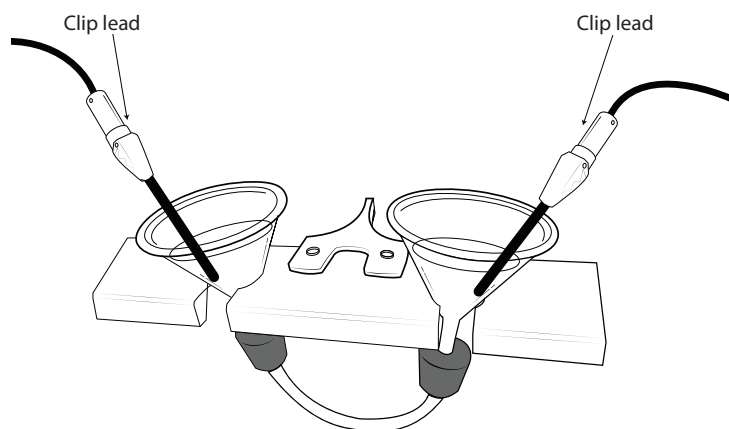

Figure 1. Funnel Apparatus with Electrodes
1. Check that your DC power supply is properly set up. Refer to Figure 1 on the next page for terminology and set up. If the clip leads are corroded or frayed, take them to the Dispensary to exchange for a new set.
Question A: How do you interpret the color changes in each funnel? Draw the diagram in Figure 1 and indicate what color changes occur and write balanced chemical reactions for the processes that cause the changes.
- Referring to Figure 1, which you transcribed into your notebook, the instructions for Part A say to connect the (+) terminal of the multimeter (the red lead and red socket) to the electrode in the left-hand funnel and the (-) terminal of the multimeter (the black lead and black socket) to the electrode in the right-hand funnel. Using this arrangement, please answer the following question regarding the color changes observed during the electrolysis.